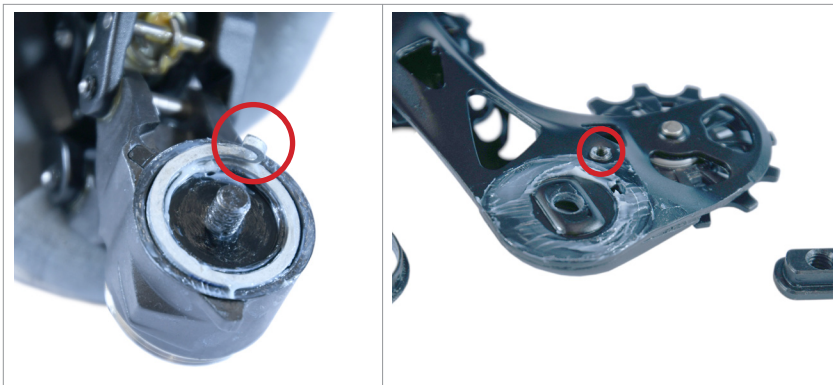

Fig.3
3) Install the jockey cage, hooking the spring in the corresponding hole on the jockey cage itself (Fig. 3).